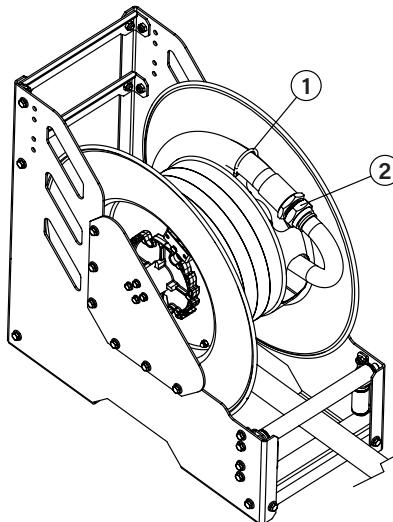

Fig. 5
2. Connect the new hose to the gooseneck (2), place the U-bolt (1) (Fig. 5) in such a way that it firmly holds the hose against the spool, and start to wind the hose into the spool turning the spool manually.